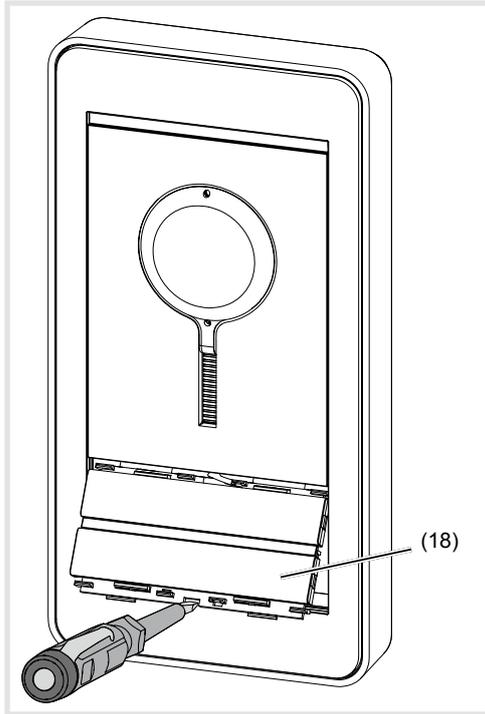

Figure 19: Dismantling the call push-button module cover
- Use a screwdriver to lever open the push-button module cover and remove it from the front (Figure 19).